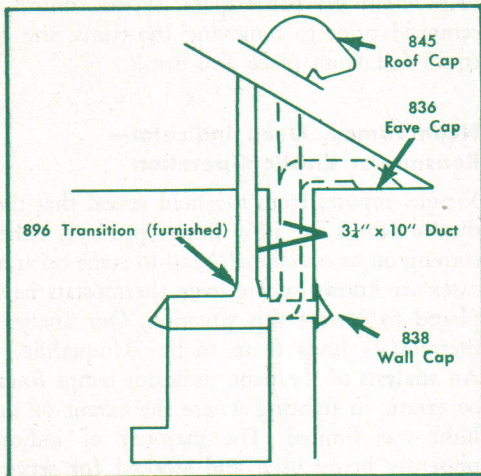

Fig. 1
There are three (3) ways to vent the Frigidaire Flair Range Hood, models EH-30 and EH-40. (Fig. 1)